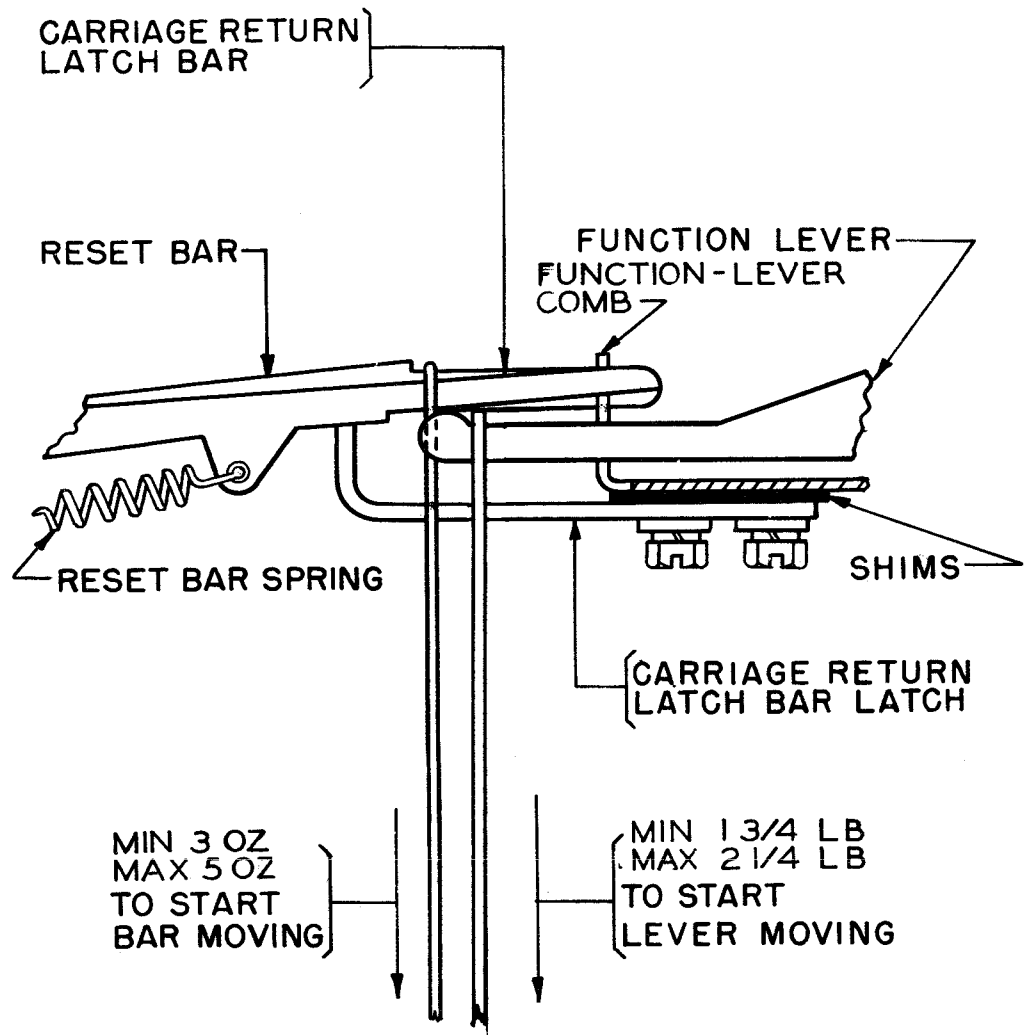

Figure 45
To Adjust: Use shims between the carriage-return latchbar latch and function-lever comb. See Figure 45.
To Adjust: Reposition the carriage-return latchbar latch by means of its elongated mounting holes. See Figure 45.
2.105 Carriage-return Reset Bar Spring should have a tension of minimum 3 ounces, maximum 5 ounces, measured when the function bail is in its extreme forward position and the carriage-return latch-bar is tripped off its latch. See Figure 45.
2.106 Carriage-return Function-lever Spring should have a tension of minimum 1-3/4 pounds, maximum 2-1/4 pounds when any character combination is selected and the mainshaft is rotated until the carriage-return function lever is resting against the vanes but not selected. See Figure 45.